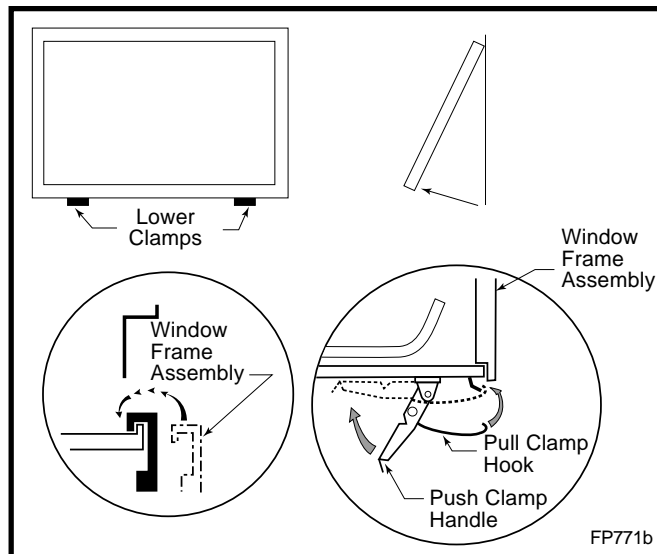

Fig. 36 Window frame assembly removal.
5. Release the two clamps securing the lower edge of the window frame assembly by pulling down on the handles. (Fig. 36)